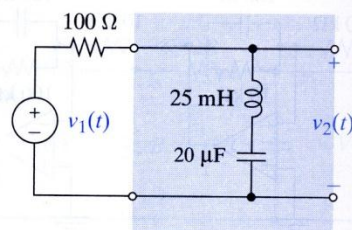

FIGURE P11-26
- 11-26 The circuit in Figure P11-26 is in the steady state with $v_1(t) = 5 \cos 225.08t$ V. Find $v_{2ss}(t)$. Repeat for $v_1(t) = 5 \cos 10kt$ V. And without doing any calculations, repeat for $v_1(t) = 5$ V.